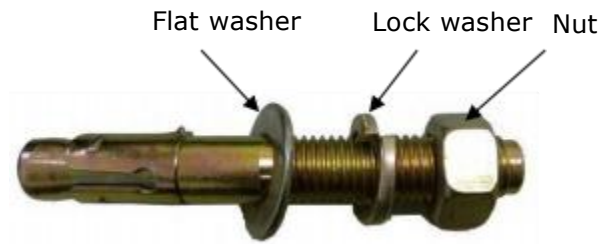

Fig. 16
1. Prepare anchor bolts (See Fig. 16).